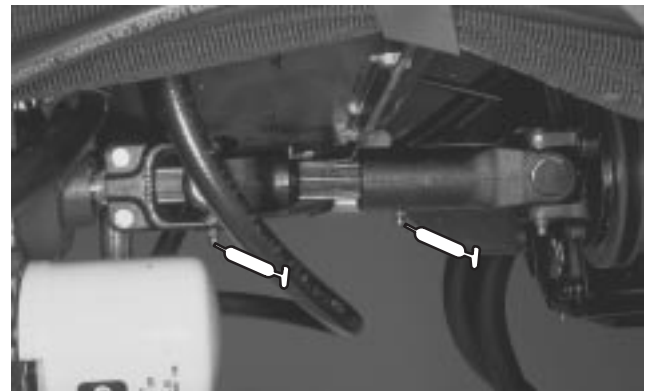
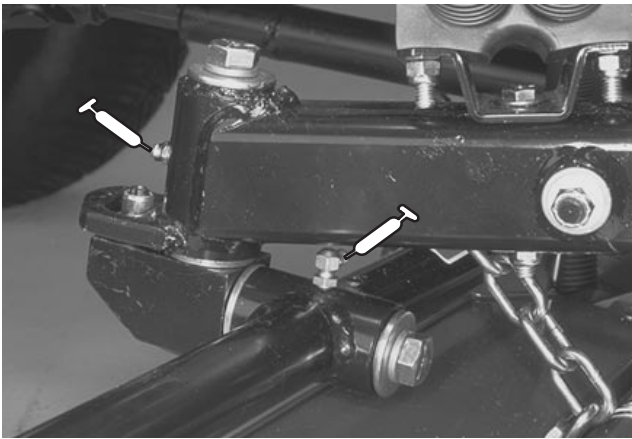
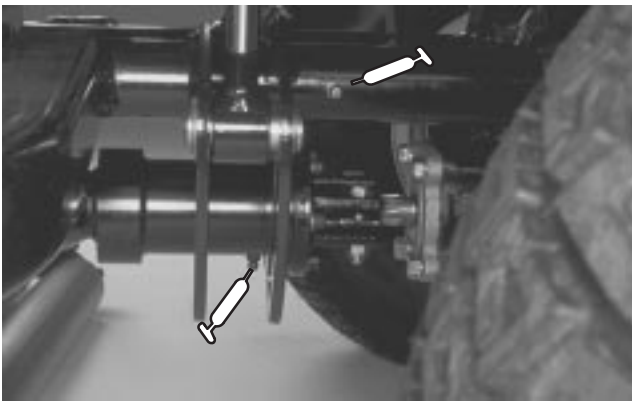
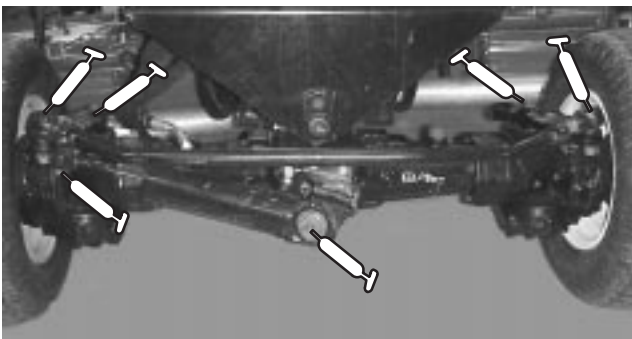

Figure 40
Figure 41
Figure 42
Figure 43
The grease fitting locations and quantities are: Engine Drive shaft (3), (Fig. 40); Cutting unit carrier frame and pivot (2 ea.), (Fig. 41); Lift arm pivots (5), Drive shaft clutch (1) (Fig. 42); Rear axle tie rod (2), Steering cylinder ball joints (2), Axle steering pivots (2) Rear axle pivot (1) (Fig. 43); Traction control linkage at transmission (1),